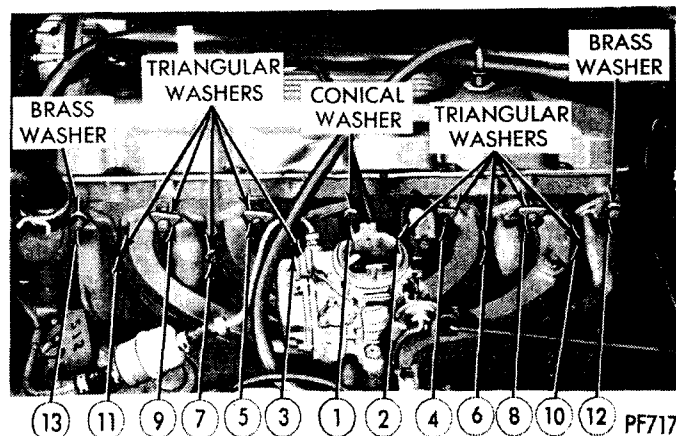

Fig. 7—Manifold Washer Locations and Tightening Sequence
(4) Install new manifold-to-cylinder head gasket; coat both sides with gasket sealer, Chrysler Part No. 3419115, or equivalent. Install manifold, then washers in their proper locations. (Fig. 7). Washers spanning intake and exhaust flanges must be flat. Replace those distorted by previous overtightening.
(5) Install steel conical washer with cup side facing nut. Install brass washers as indicated in (Fig. 7), with flat side facing manifold. Install nuts with cone side facing the washers.
(6) Carefully snug intake-to-exhaust manifold screws and nut, and manifold-to-cylinder head nuts.
(7) Tighten inboard intake-to-exhaust manifold stud nut to 20 foot-pounds.
(8) Tighten outboard intake-to-exhaust manifold screws to 20 foot-pounds.
(9) Repeat tightening procedures (7) and (8) until all three are at these specified torques.
(10) Tighten manifold-to-cylinder head nuts to 120 inch-pounds, in the tightening sequence shown in (Fig. 7). **DO NOT OVERTIGHTEN.**
(11) Connect heater hose and by-pass hose clamp.